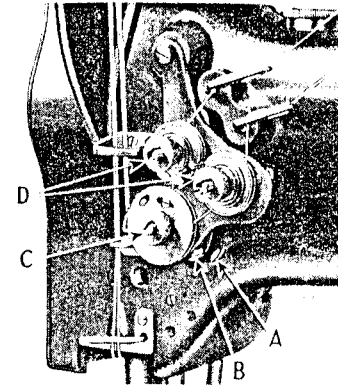

Fig. 18. Adjustment of Thread Controller
The tensions on the needle threads are regulated by the two thumb nuts (D, Fig. 18) at the front of the tension discs on the front of the machine. To increase the tension, turn these thumb nuts over to the right. To decrease the tension, turn the thumb nuts over to the left.
To change the thread controller stop for more controller action on the thread, loosen the set screw (B, Fig. 18) and rotate the thread controller spring stop to the right; for less action, rotate to the left, after which securely tighten the set screw (B).
To increase the tension of the thread controller on the threads, loosen the tension stud set screw (A, Fig. 18), located nearly under the tension stud, and turn the tension stud (C, Fig. 18) slightly to the left with a screwdriver, or to decrease the tension, turn it to the right and retighten the stud set screw (A).